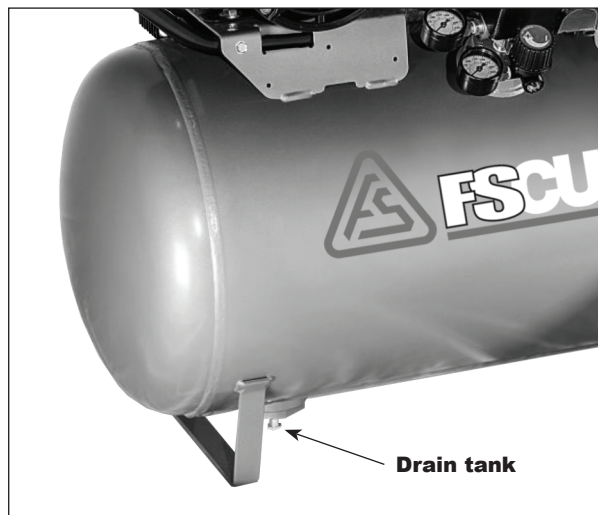

Figure 5
2. Open the bottom tank drain valve (see Figure 5). Turn outlet valve to open air flow.
Drain Tank (see Figure 5)	●